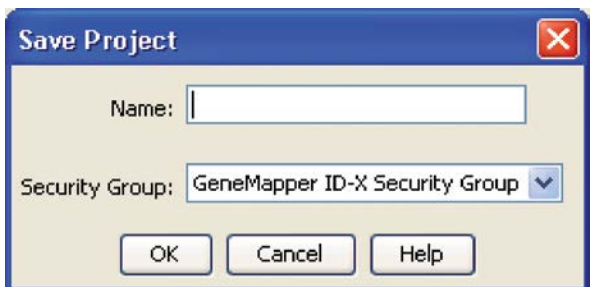

Figure 15. The Save Project window.
9. If all analysis requirements are met, the Save Project window will open (Figure 15).